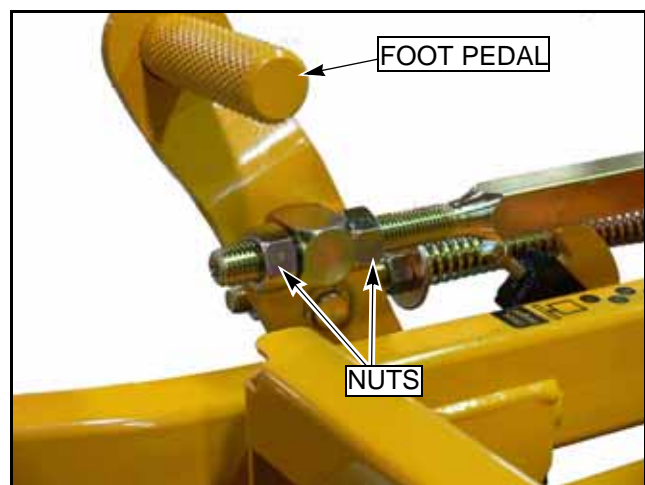

FIG. 66
7. Loosen the two nuts on the front of height indicator so that the foot pedal is free (FIG. 66).
12. While keeping the chain tight, tighten the nuts against the deck lift block on the height indicator rod (FIG. 66).